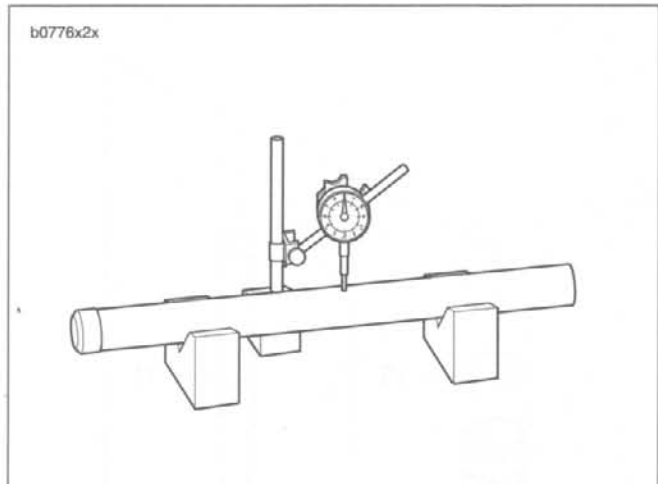

Figure 2-98. Pipe Runout
3. Check the slide bushing (16) and the guide bushing (9) for excessive wear or scratches. Replace if damaged or worn.
4. Replace the stopper ring (12) if distorted.
5. Measure spring (7) free length. Replace springs shorter than service wear limit of 9.13 in. (232 mm).
6. See Figure 2-98. Measure slide pipe runout. Replace pipe if runout exceeds the service wear limit of 0.008 in. (0.2 mm).